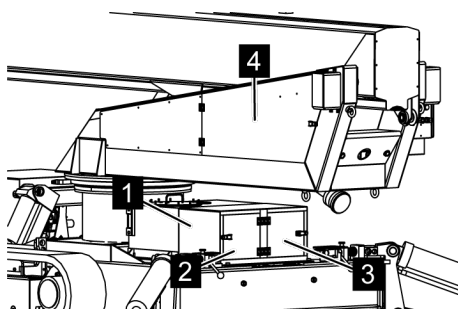

Fig. 120: Shuttle valves door
2. → Open the doors (Fig. 120/2 and 3) or completely remove the cover (Fig. 120/1).
3. → Open the door (Fig. 120/4).